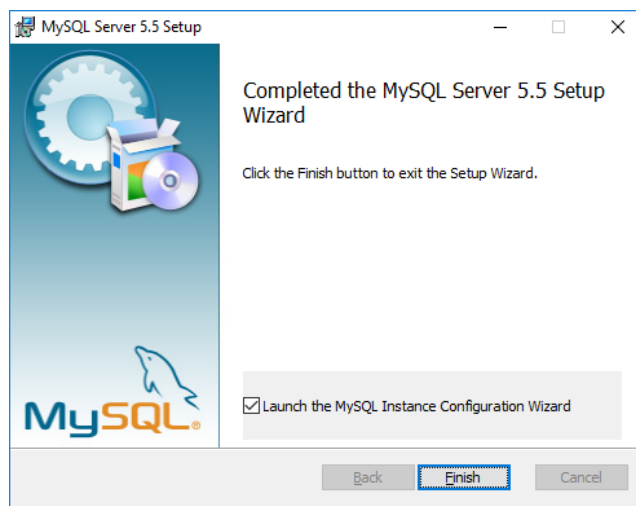

Figure A6
6. When the installation is complete, ensure "Launch the MySQL Instance Configuration Wizard" is checked and click "Finish". (Figure A6)